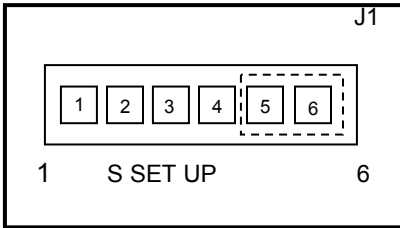

Figure 15
- 13. Position the jumper on pins 5 and 6 of the **J1 (S SET UP)** header. (Refer to Figure 15).